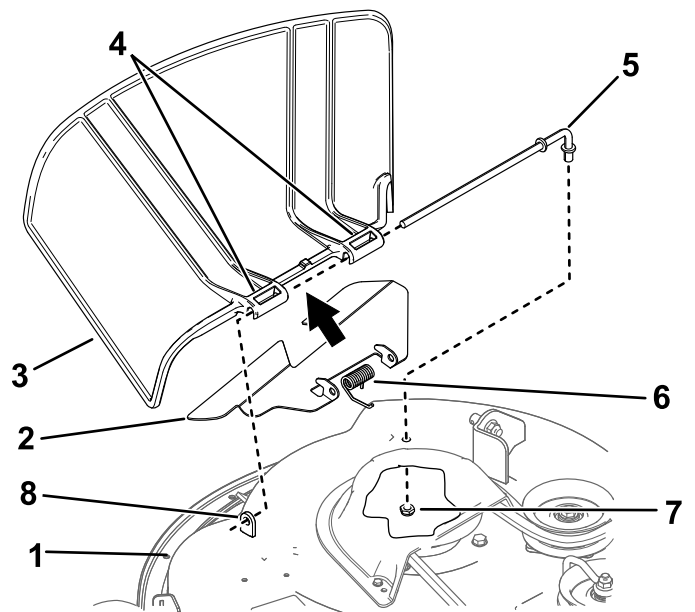

Figure 71
1. Remove the nut (3/8 inch) from the rod under the mower (Figure 71).
2. Slide the rod out of the short stand-off, spring, baffle, and grass deflector (Figure 71).
4. Install the new grass deflector and the baffle (Figure 71).
7. Slide the rod through the baffle and second grass-deflector bracket (Figure 71).
9. Secure the rear end of the rod into the mower with a nut (3/8 inch) as shown in Figure 71.